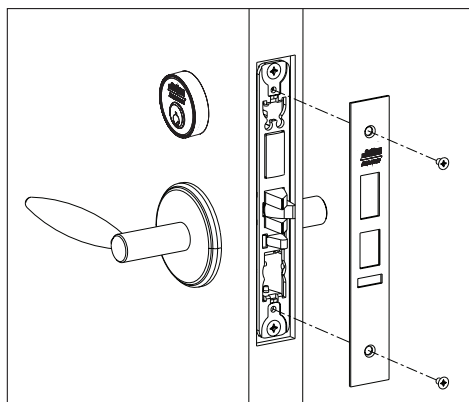

Figure 5-5V
6. Install armored front. Tighten two (2) screws through lockbody then attach armored front with two (2) #8x 1/4" screws. (Figure 5-5V)